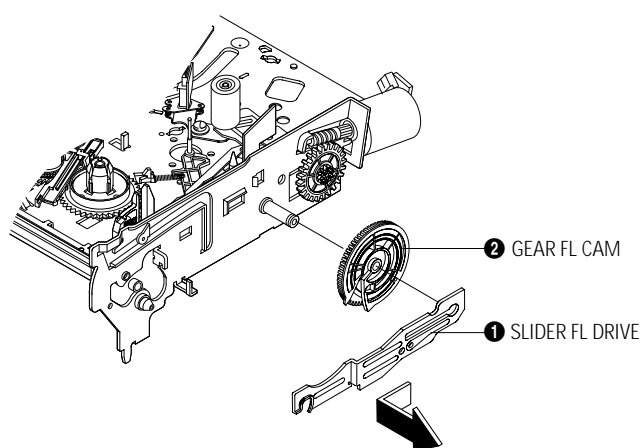

Fig. 4-11 Slider FL Drive Removal
- 1) Pull the Slider FL Drive ❶ to the front direction.
- 2) Remove the Slider FL Drive ❶ in the direction of arrow. (Refer to Fig. 4-11)
- 3) Remove the Gear FL cam ❷.
**Note :** When reinstalling be sure to reassemble Slider FL drive ❶ after you insert the Boss of Lever FL ARM-R in Groove of Slider Fl drive ❶.
**Assembly :** Align the Gear FL Cam ❶ with the Gear worm wheel Post as shown drawing. (Refer to Timing point)